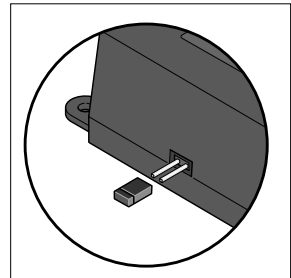

Figure 3. Jumper location
- 1. Remove the jumper from the side of the BPC unit. Refer to Figure 3 on page 8 for the location of the jumper.**
Pull the small black connector out from the terminal at the side of the BPC unit. Refer to Figure 3 for the location of the jumper.